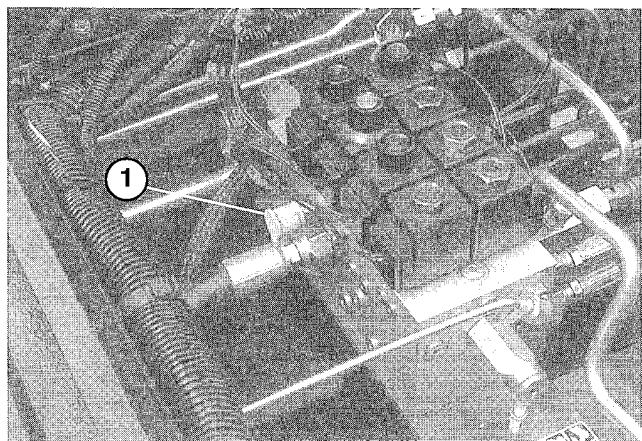

Figure 53
1. Test Port #1 (Fig. 53) is used to assist in trouble shooting the hydraulic circuit for the front cutting units and lift cylinders.